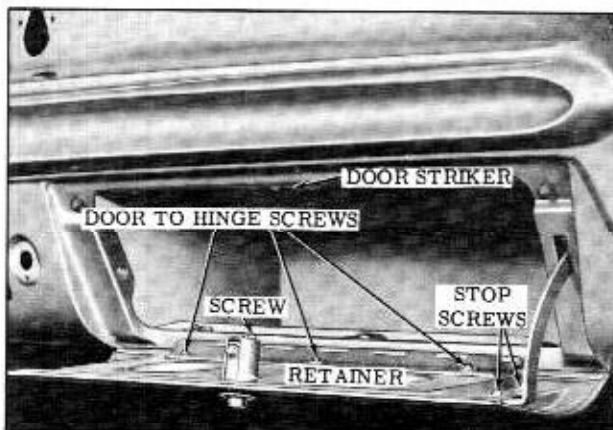

Fig. 15-13 Instrument Panel Compartment Door Assembly
- Remove hinge stop attaching screws from door inner panel. (Fig. 15-13)
- Remove door hinge attaching screws from door inner panel and remove door. (Fig. 15-13)
- The door lock striker may be adjusted by loosening attaching screws and moving striker forward or rearward. (Fig. 15-13)
- Remove hinge stop attaching screws, (Fig. 15-13), and remove body.